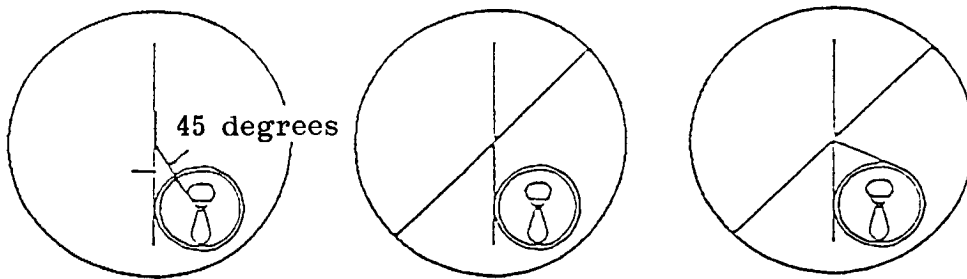

Figure 1
2. The end with two (2) holes in it always goes towards the front of the machine.
3. If the shim is to be installed on the left side of a column bend the spring towards the center of the column at approximately 45 degrees. See figure 1.
Install the w/a 330ml can shim so the end of the shim with two (2) holes in it is toward the front of the machine. See figure of shim on page 4. Place shim with spring at the inside position of each side with the spring bent toward the center of the column at approximately 45 degrees. See figures 1 & 2 on page 4.